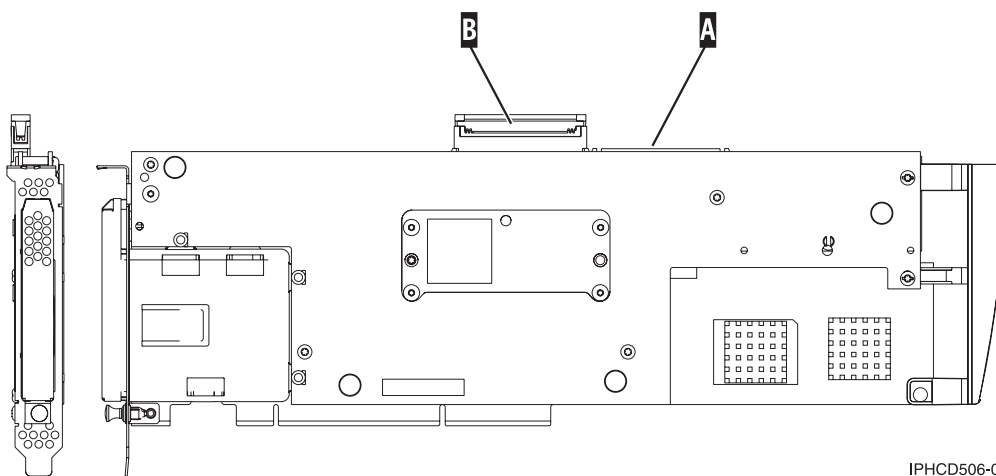

Figure 103. 5708, auxiliary-write cache IOA
2. Attach the cable to SCSI port A on the auxiliary-write cache adapter. See Figure 103 on page 324.